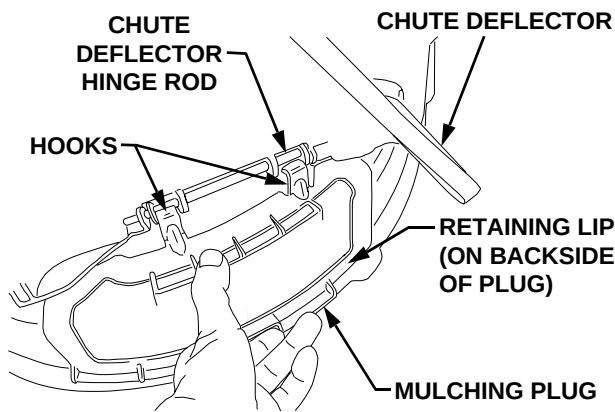

Figure 4-3
3. Position the mulching plug so that the retaining lip on the backside of the plug partially interlocks with the lower edge of the deck chute opening; then rotate the top of the plug upward so that the hooks engage the deflector hinge rod (Refer to Figure 4-3).